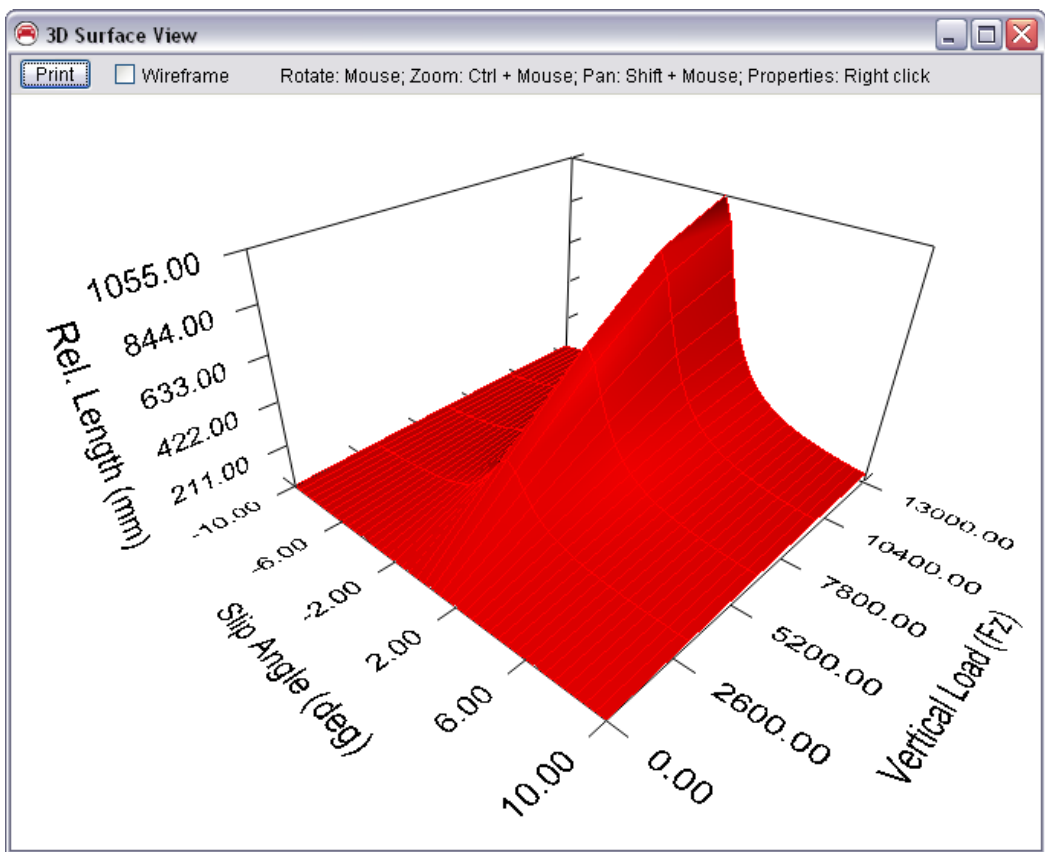

Figure 5. Graphical view of combination of two configurable functions.
- (10) Button for viewing the combination of two functions with a 3D map (Figure 5). This button is only visible if two tables are shown ((9) and (13)). It operates by calculating the output using the two tables and the method for combining them that is selected with the drop-down control (11).